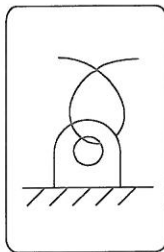
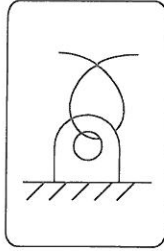

Figure 215.
Figure 218.
6. The correct tie down positions are identified on the machine by their labels. Refer to Figure 215.
- 6. The correct tie down positions are identified on the machine by their labels. Refer to Figure 215. Refer to Figure 218.